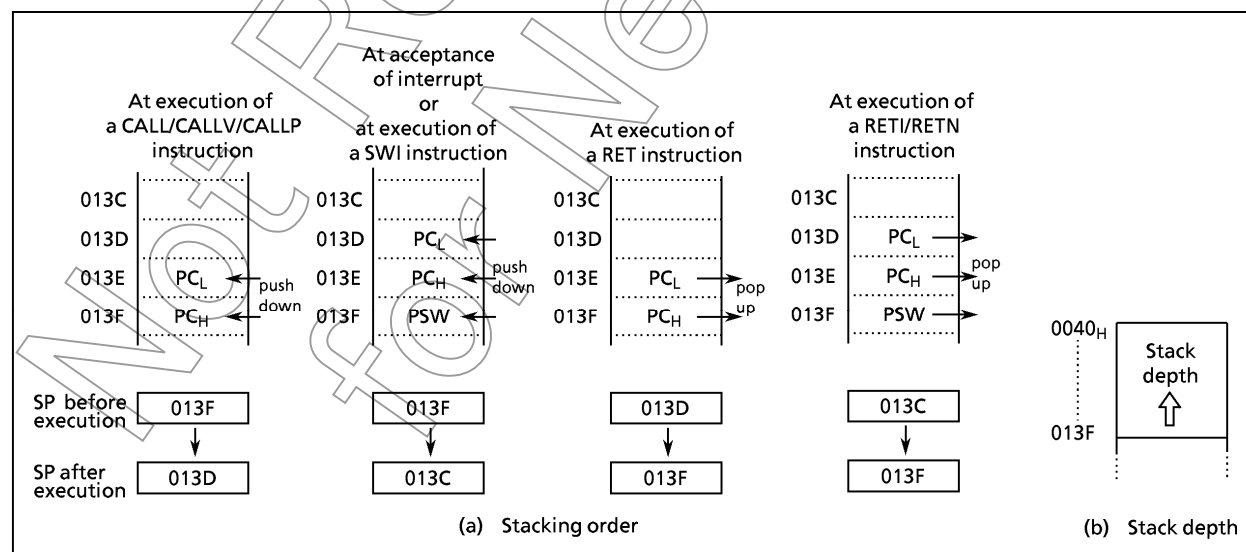

Figure 1-8. Stack
The stack pointer (SP) is a 16-bit register to point out the first start address on the stack. The SP is post-decrement when a subroutine call or a push instruction is executed, or when an interrupt is accepted; and the SPC is pre-incremented when a return or a pop instruction is executed. The stack deepens to the direction of the lower address. Figure 1-8 shows the change of the stack access and the SP.